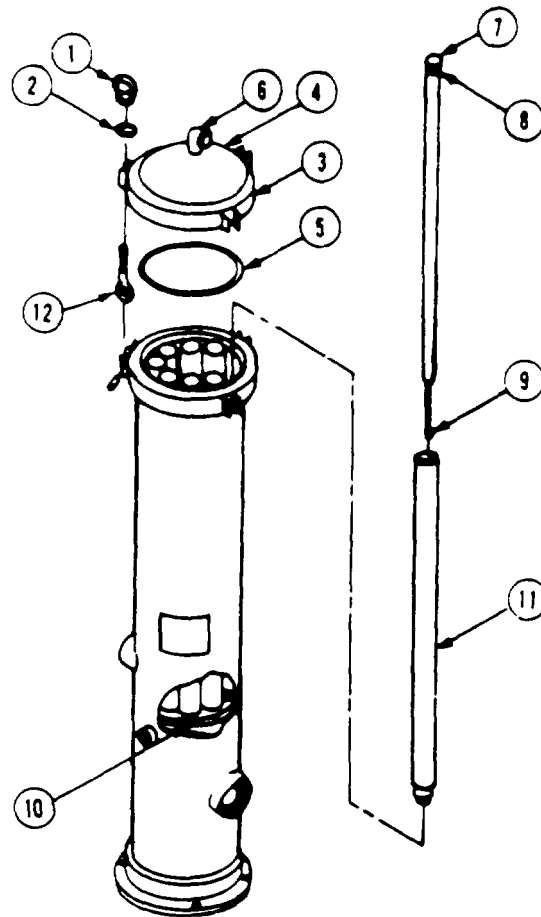
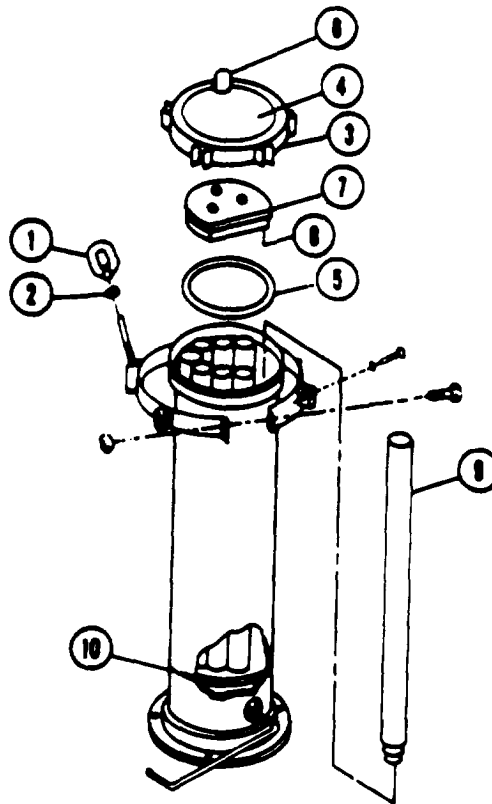

Figure 3-10. Cartridge Filter Assembly (Model No. 600-1)
Figure 3-11. Cartridge Filter Tube (Model No. 600-3)
3-5. CHANGING CARTRIDGE FILTER TUBE ELEMENTS. (Model No. 600-1, refer to fig. 3-10. Model No. 600-3, refer to fig. 3-11.)
(7) With one hand on the handle of the filter seat and clamp hook assembly (7), and the other hand on the filter tube (11), attempt to remove each assembly without tipping handle to one side and unhooking (as shown in fig. 3-10).